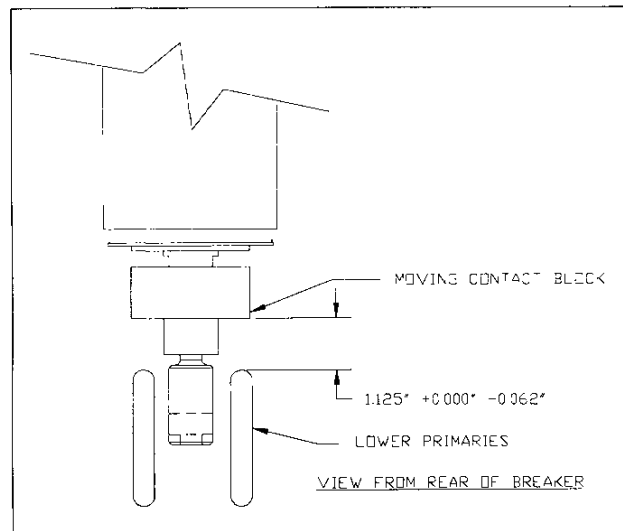

Figure 1. Moving Contact Block Measurements
- a. With closed contacts on a new vacuum interrupter, the bottom of the moving contact block should be $1.125'' +0.00'' -0.062''$ above the top of the lower main primary disconnect bars. See Figure 1.